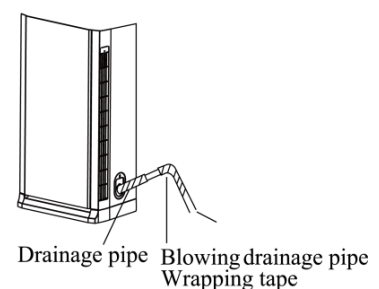

Fig.5
- (1) Make sure drainage pipe is led outdoors (discharge side).
- (2) Butt-joint drainage pipe in the unit with blowing drainage pipe and fix them with insulated tape.
- (3) If the drainage pipe should be wrapped with heat-preservation material (at least 9mm thickness), and then wrap it with tape to prevent air from entering into the pipe, which will cause condensation.
- (4) After connecting, check if water can discharge properly or if there is any leakage. (As shown in Fig.5)